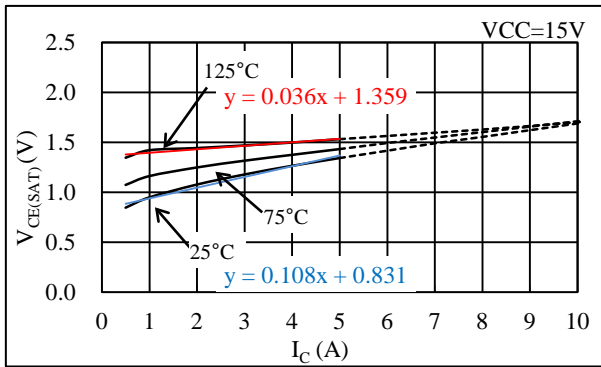

Figure 14-1. Linear Approximate Equation of $V_{CE(SAT)}$ vs. I_C Curve
Steady-state loss in an IGBT can be computed by using the V_{CE(SAT)} vs. I_C curves, listed in Section 15.3.1. As expressed by the curves in Figure 14-1, linear approximations at a range the I_C is actually used are obtained by: V_{CE(SAT)} = α × I_C + β. The values gained by the above calculation are then applied as parameters in Equation (4), below. Hence, the equation to obtain the IGBT steady-state loss, P_{ON}, is: